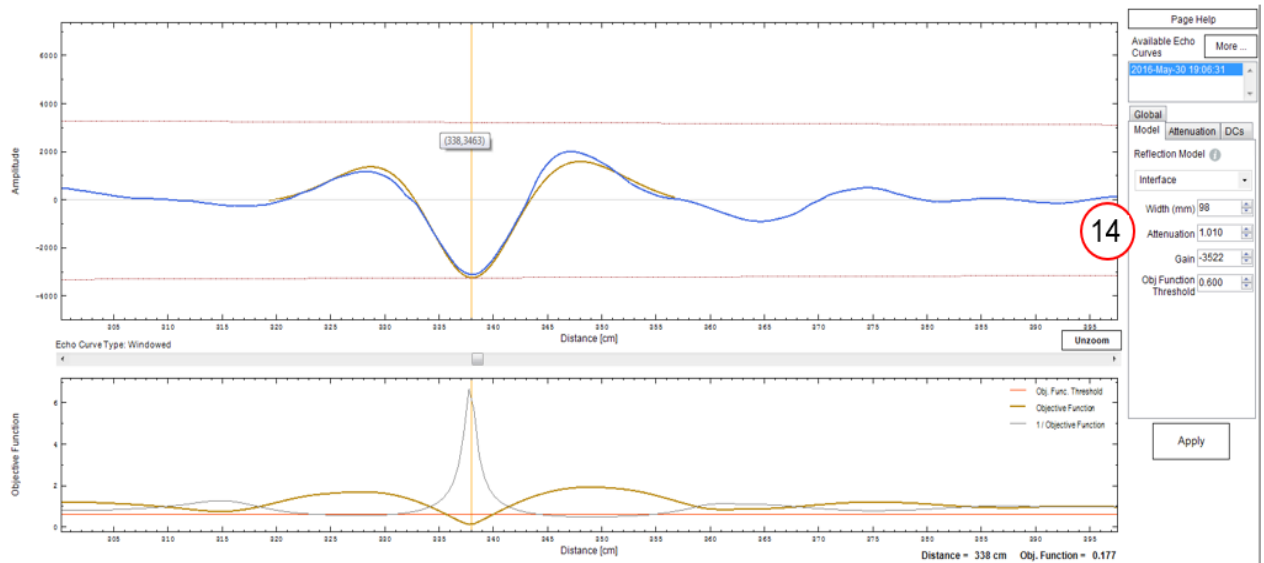

Figure 28: Adjusting the Width and Attenuation Parameters
14. If the algorithm is still not finding a match then the model's other parameters, Width and Attenuation, can be adjusted to get an even closer match between the model and the curve. Note that it may be necessary to collect echo curves with various levels of product to ensure that the reflection model provides a good match through the full range. Figure 28 shows the example with the Gain, Width and Attenuation parameters optimized to give an Object Function reading of 0.177.